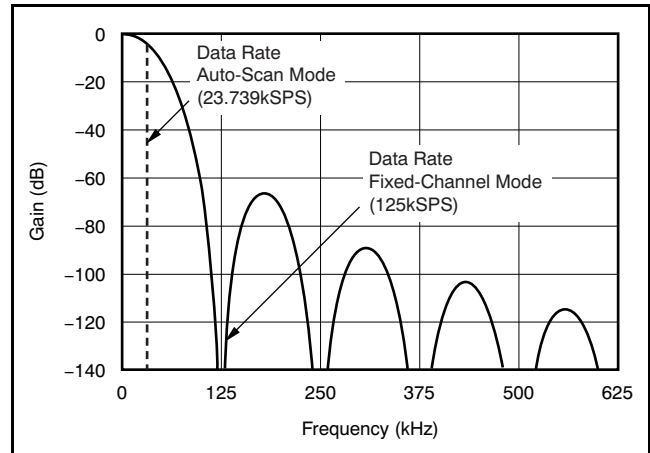
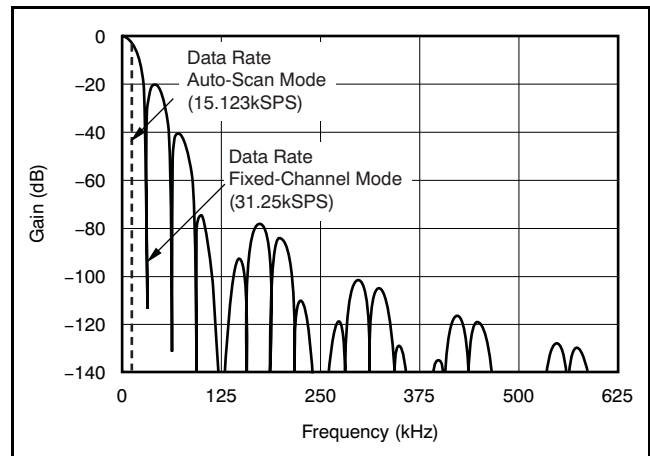

Figure 29. Frequency Response, DRATE[1:0] = 11
Figure 30. Frequency Response, DRATE[1:0] = 10
The low-pass filter has notches (or zeros) at the data output rate and multiples thereof. The sinc⁵ part of the filter produces wide notches at $f_{CLK}/128$ and multiples thereof. At these frequencies, the filter has zero gain. Figure 29 shows the response with no post averaging. Note that in Auto-Scan mode, the data rate is reduced while retaining the same frequency response as in Fixed-Channel mode.
Figure 30 shows the response with averaging set to 4 (DRATE[1:0] = 10). 4-reading, post-averaging produces three equally-spaced notches between each main notch of the sinc⁵ filter. The frequency response of DRATE[1:0] = 01 and 00 follows a similar pattern, but with 15 and 63 equally-spaced notches between the main sinc⁵ notches, respectively.
(1) f_{CLK} = 16MHz, Chop = 0, and Delay = 0.
(2) Num_Ave is the number of averages performed by the digital filter second stage.
(3) In Auto-Scan mode, the data rate listed is for a single channel; the effective data rate for multiple channels (on a per-channel basis) is the value shown in Figure 29 and Figure 30 divided by the number of active channels in a scan loop.
Referring to Figure 29 and Figure 30, frequencies present on the analog input above the Nyquist rate (sample rate/2) are first attenuated by the digital filter and then aliased into the passband.